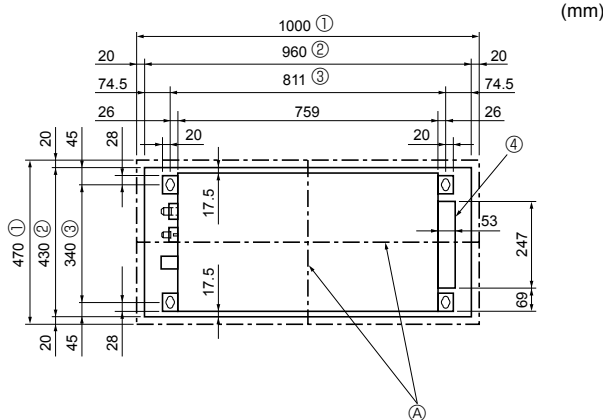

Fig. 2-3
2.3. Ceiling openings and suspension bolt installation locations (Fig. 2-3)
- ① Outer side of grille
- ② Ceiling opening
- ③ Bolt pitch
- ④ Electric box